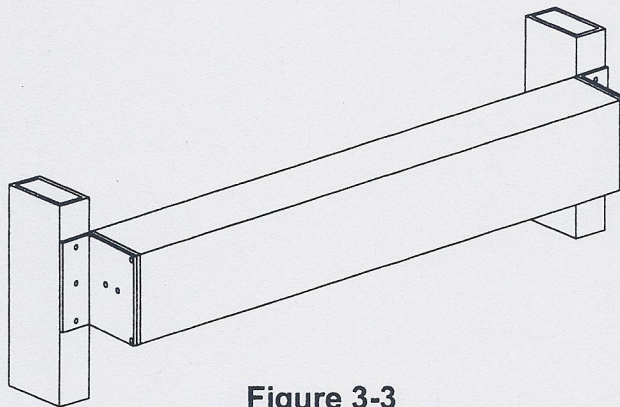

Figure 3-3
- 3.4. Install the header with horizontal mounting brackets to the jambs per the instructions supplied with the horizontal mounting brackets (Figure 3-3).